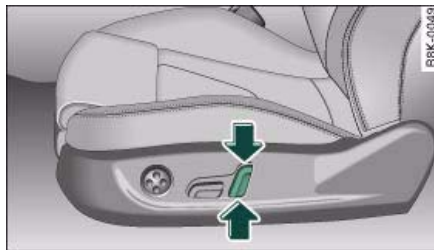

Fig. 79 Front seat: Adjusting head restraint (electric adjustment\*)
- Press the switch ⇒ fig. 79 up or down to move the head restraint to the desired height.